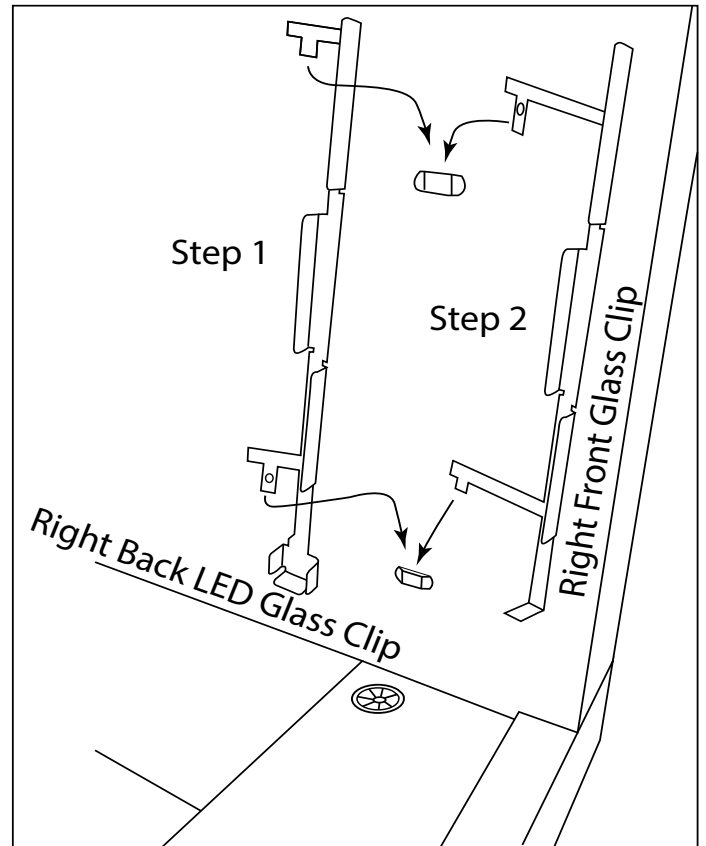

Figure 18 - Shows clip installed on right side of fireplace
NOTE: When converting to the see-through fireplace the glass windshield clips will need to be installed. See Figures 18 and 19 on Page 16. The clips will be packaged with the glass windshields. The see-through fireplace requires windshields on both sides for proper operation.
Install the LED glass clips by sliding them down through the metal bridges as shown in Figure 18. Install (1) clip on the left and (1) clip on the right side of the inner fireplace side panel. Note: If you are preparing an optional see-through fireplace you will install a total of (8) glass clips, two for each open side. The additional clips are supplied with the see-through conversion kit. Note: If you are preparing a see-through fireplace you will install a total of (8) glass clips, (4) on each open side.